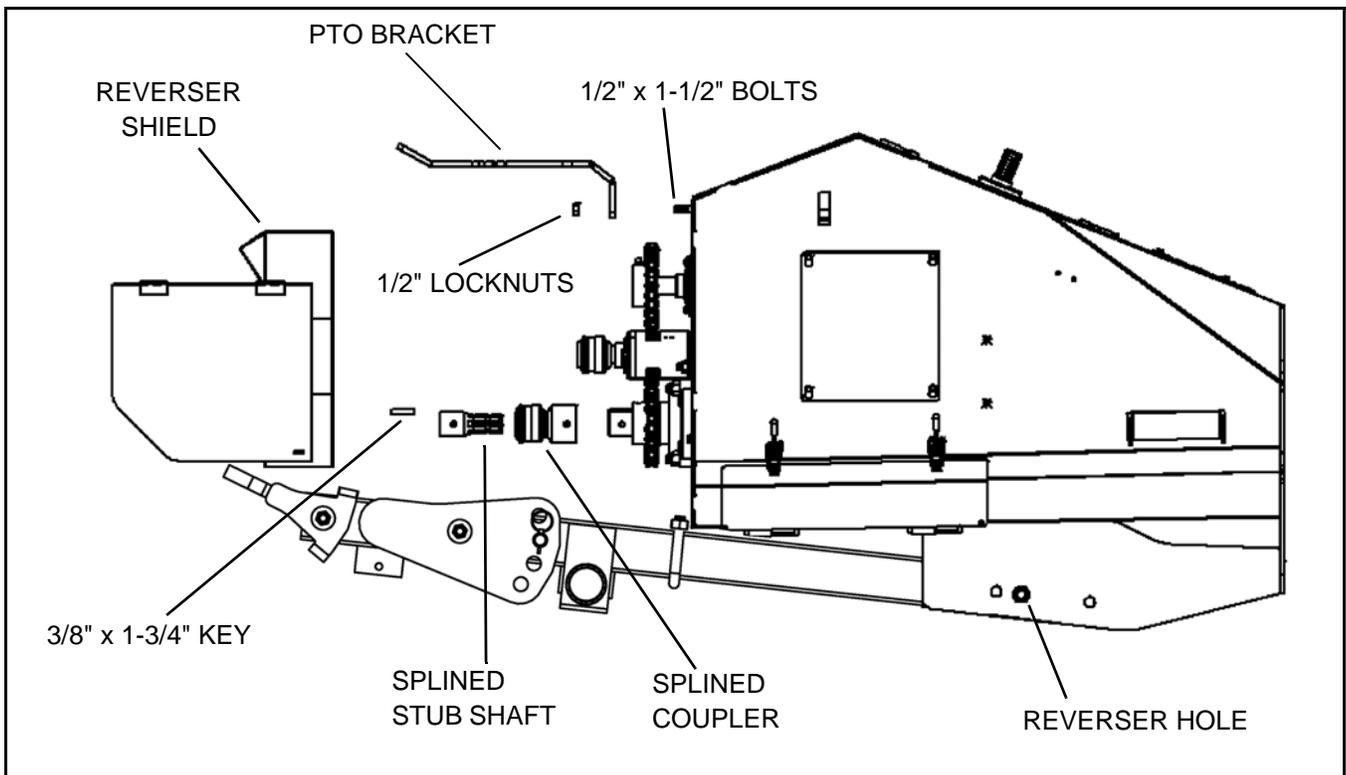

Figure 3 Reverser Assembly Details (Splined Shaft, Coupler, Shield, and Hardware)
7. Install the new reverser shield using the original four 5/16" x 3/4" bolts (see Figure 3). Discard the old sprocket shield.
9. Adjust the boot tow bar to use the appropriate hole (labeled "Reverser Hole" in Figure 3), and attach using the existing 3/4" x 5-1/2" bolt and locknut. Tighten securely.